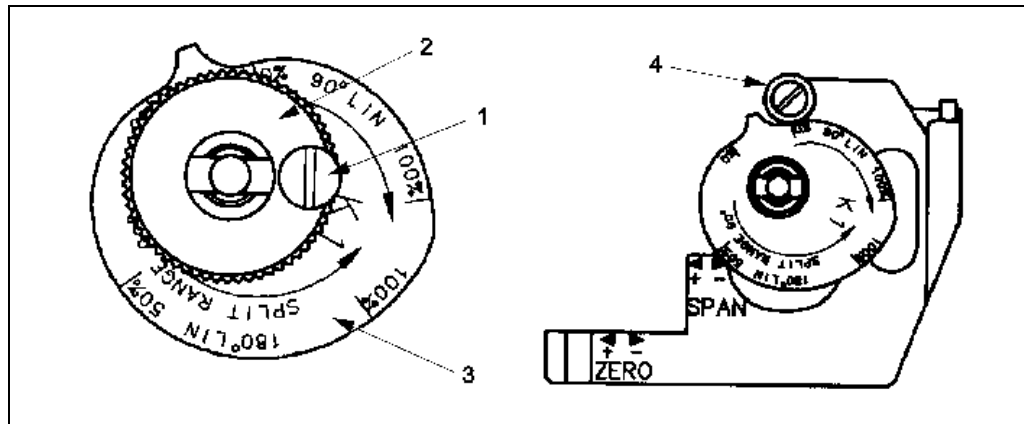

**Figure 4 – Cam Positions**
**Note:** See Figure 4 for proper cam position.
5. Turn the cam over and position the cam so the cam roller is about 1/32" from the stop on the cam. See Figure 4.